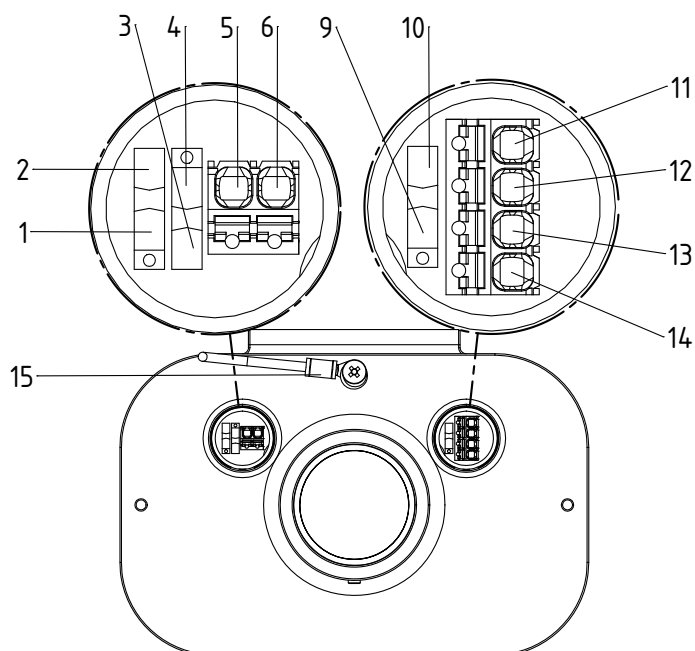

Fig. 8:
- Connect the cable as shown in Fig. 8 / Fig. 10.
- Fasten the adapter with the cable gland (2), then tighten the cap nut (1) with a maximum torque of 5 Nm. The gasket must not be damaged.
A two-core cable for connecting the ground circuit with the PAL bonding lead is routed into the connecting terminal space via the cable inlet (5, 6 Fig. 8 / Fig. 10). The double routing ensures that any disruptions to the PAL bonding lead are identified.
The two PAL leads belong to the intrinsically safe circuit, see cable entry 5, 6 Fig. 8 / Fig. 10.